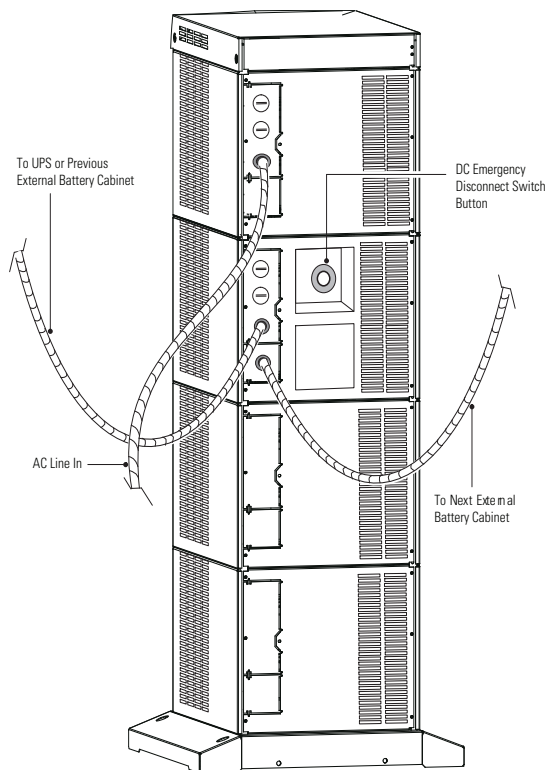

Figure 47. Connecting Additional Battery Cabinets (ASY-0739 Shown)
3. If an additional battery cabinet will be connected to the first, in a daisy-chain configuration, use another external battery cabinet cable assembly for the connections between the battery cabinets (see Figure 47).